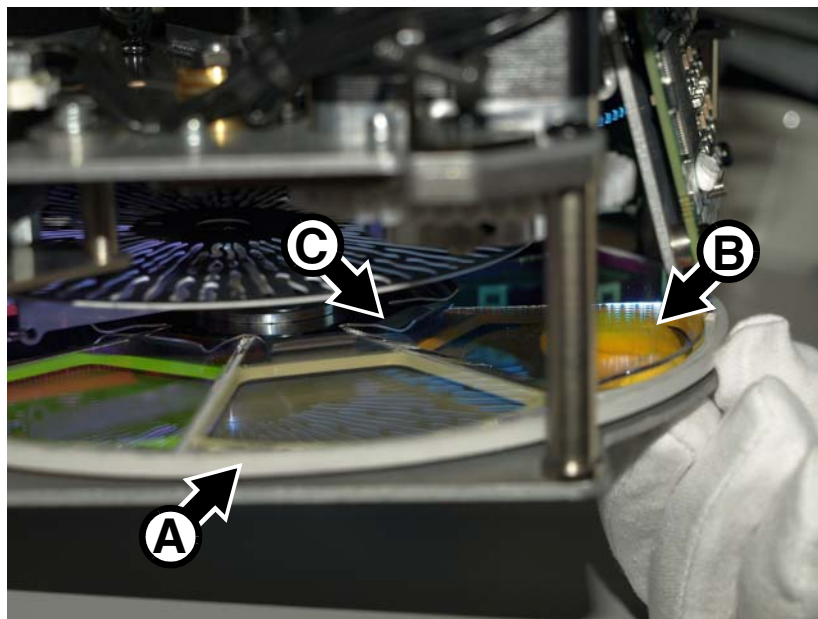
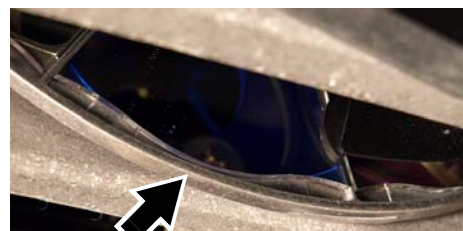

Figure 25: Color filter removal
Figure 26: Color filter installation
4. See Figure 25. Turn the color wheel **A** until the filter that you want to replace **B** is accessible. Put on clean cotton gloves and hold the filter near its outer edge between finger and thumb. Push the outer
6. See Figure 25. Slide the filter into its clip **C** in the center of the color wheel. See Figure 26. Make sure that the outer edge of the filter locates under the lip (arrowed) on the edge of the color wheel so that the filter is held securely.